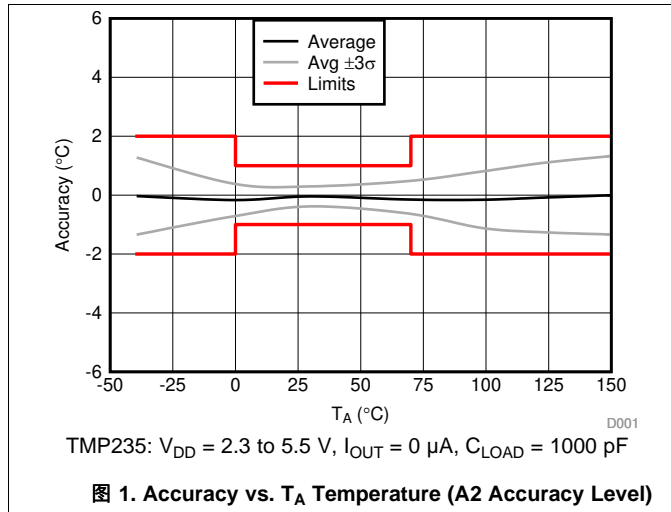

图 1. Accuracy vs. T_A Temperature (A2 Accuracy Level)
- Changed specification limits indicated in 图 1 6